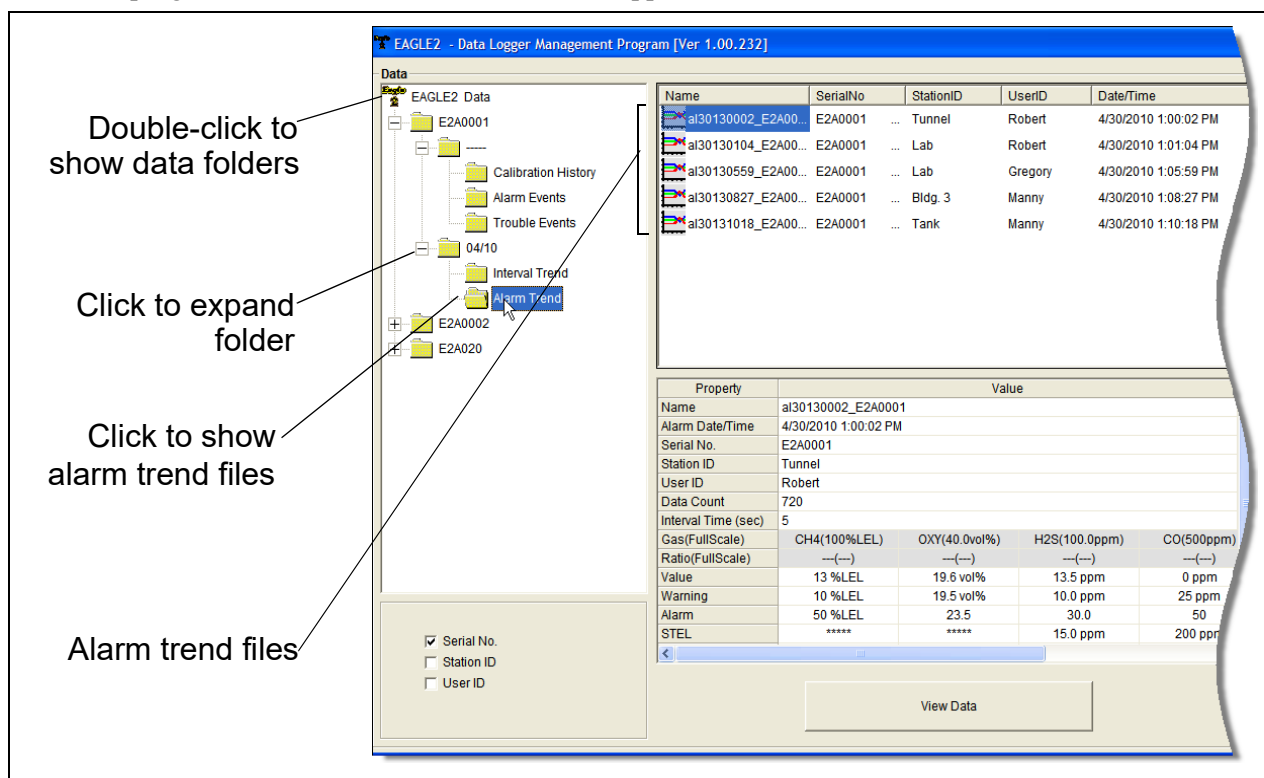

Figure 31: Data Window - Selecting Alarm Trend Data Files
- If you click the **Summary** button, the data window will split into two frames one above the other with the data table in the lower frame and the summary information shown in the upper frame. The summary information is the same as the information shown in the lower right frame in Figure 31.
- If you click the **Summary** button, the data window will split into two frames one above the other with the graph in the lower frame and the summary information shown in the upper frame. The summary information is the same as the information shown in the lower right frame in Figure 31. To return to the one frame format, click **Summary** again.